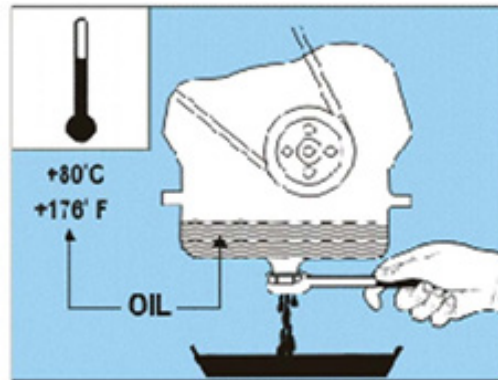

Figure 6
3. Stop the engine (Figure 6).